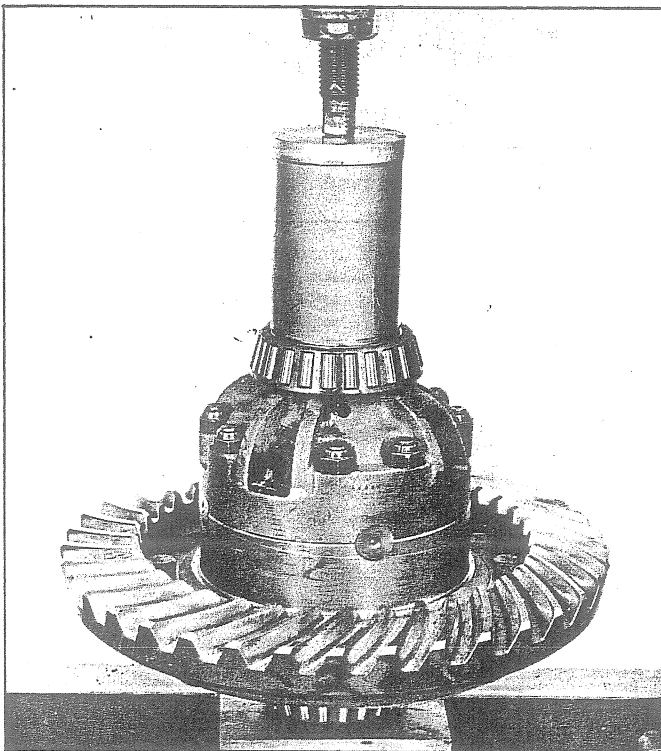

Fig. 63 - Installing Differential Carrier Bearing
14. Press bearing on each side of the differential as shown in Fig. 63.